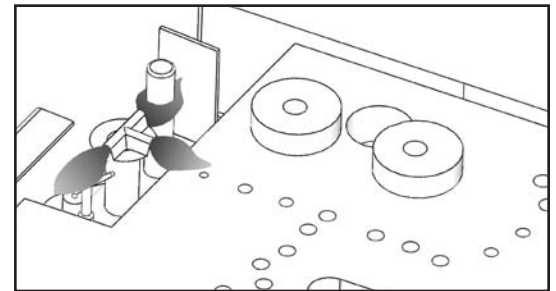

Figure 6: Pilot Flame.
- Turn off the gas to the fireplace. **If not recently done, remove the door and let the unit air out for at least five (5) minutes to clear out any gas.** Turn on gas to the heater. Leak test all joints with soapy water. **NEVER USE OPEN FLAME FOR LEAK TESTING.**
- Start the pilot by pressing the gas control knob and turning it to PILOT. While holding the gas control knob in, press the piezo ignitor several times until the pilot light starts. Hold the gas control knob in for 30 seconds. Check that the pilot has fully engulfed the thermocouple assembly (refer to Figure 6).
Periodically do a visual check of the pilot flames. One flame should encompass the ignitor and thermocouple and the other should burn over the burner ports (see Figure 6). Also check that the burner is operating correctly, refer to Figure 43 or Front Cover.